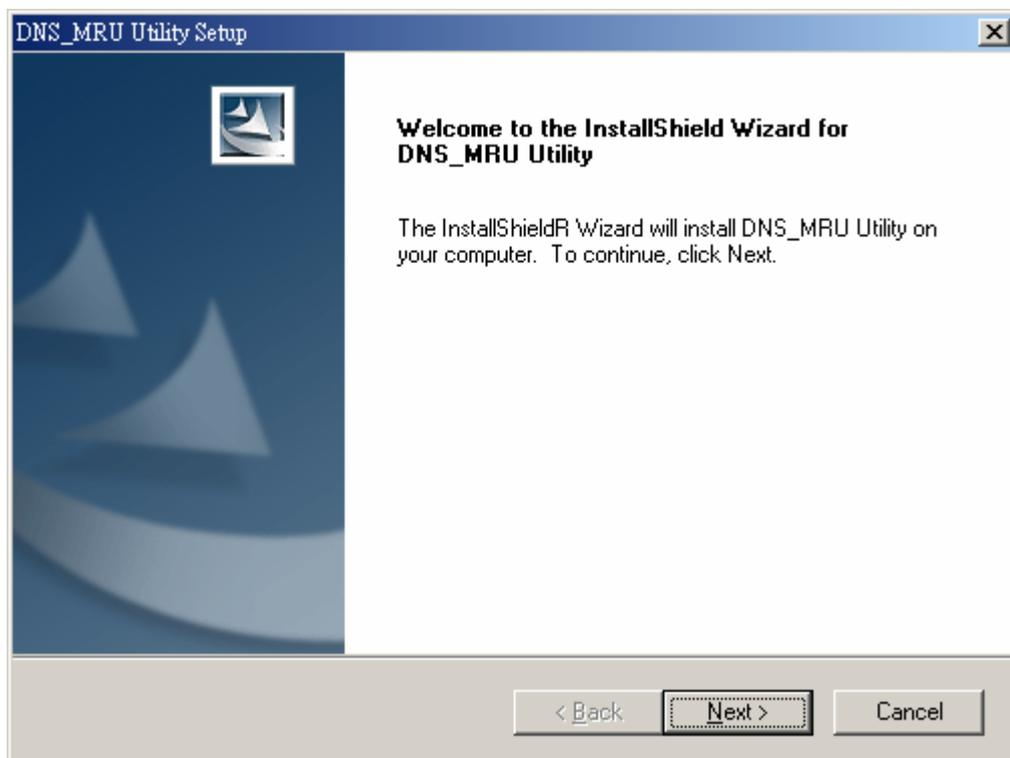

Figure 6-2. Welcome dialog
Step 3: A “Welcome” window pops up to prompt user to begin the installation. See figure 6-2.